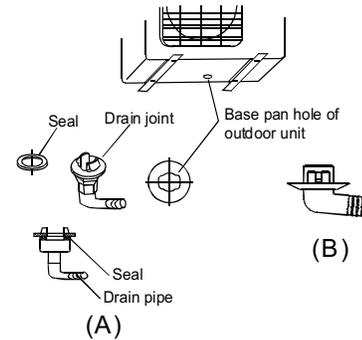

Fig. 15
For the drain joint with the seal (Fig.15 (A)), first fit the seal onto the drain joint, then insert the drain joint into the base pan hole of outdoor unit, rotate 90° to securely assemble them. To install drain joint as shown in Fig.15 (B), insert the drain joint into the base pan hole of outdoor unit until it remains fixed with a clicking sound. Connecting the drain joint with an extension drain hose (Locally purchased), in case of the water draining off the outdoor unit during the heating mode.